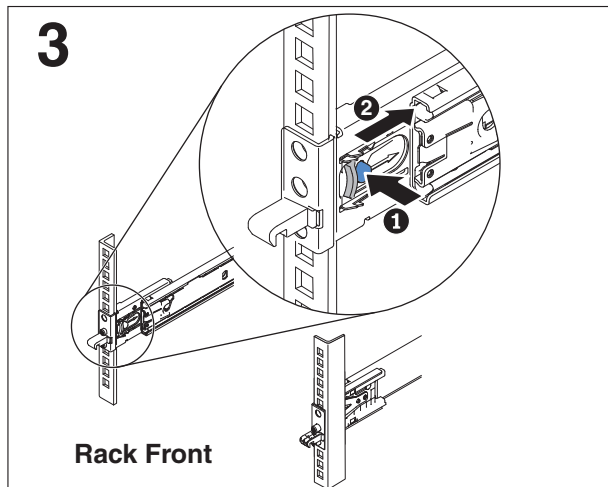

Figure 54. Removing the front end of the slide rails
2. Remove the front end of the slide rails, as shown in Figure 54.